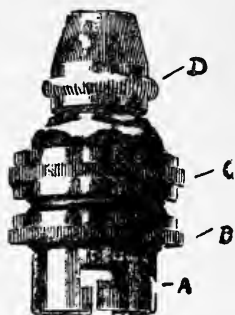

Fig. 24.—Cord-grip Electric Lampholder
**Wiring up a Lampholder.** — The lampholder to receive miniature lamps may have a cord-grip or a flange as shown respectively in Figs. 24 and 25. Flanges are for use on battens, etc., and the wires need to be conducted, to the terminals, behind the flange which is screwed to its support. The cord-grip holder is more generally convenient, as it may be suspended with a minimum of trouble exactly where it is wanted. It has a cord-grip *D* (Fig. 24) which takes the weight of the holder and lamp off the actual terminals, thus preventing a fall of the lamp through the failure of the connections. The milled ring *c* holds the brass body to the porcelain interior, and the milled cap *B* supports a shade, whilst *A* is the cylindrical part or socket in which is the well-known bayonet slot to receive the lamp. Inside the brass body above ring *c* is the porcelain fitting with terminals to receive the two ends of the circuit